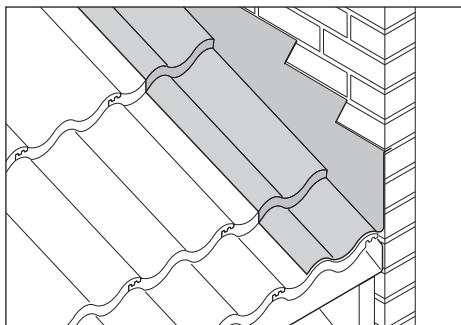

Fig. 23 – Stepped flashing with profiled interlocking tiles
- 7 Dress cover flashing as tightly as possible to tile profile (Fig. 23).